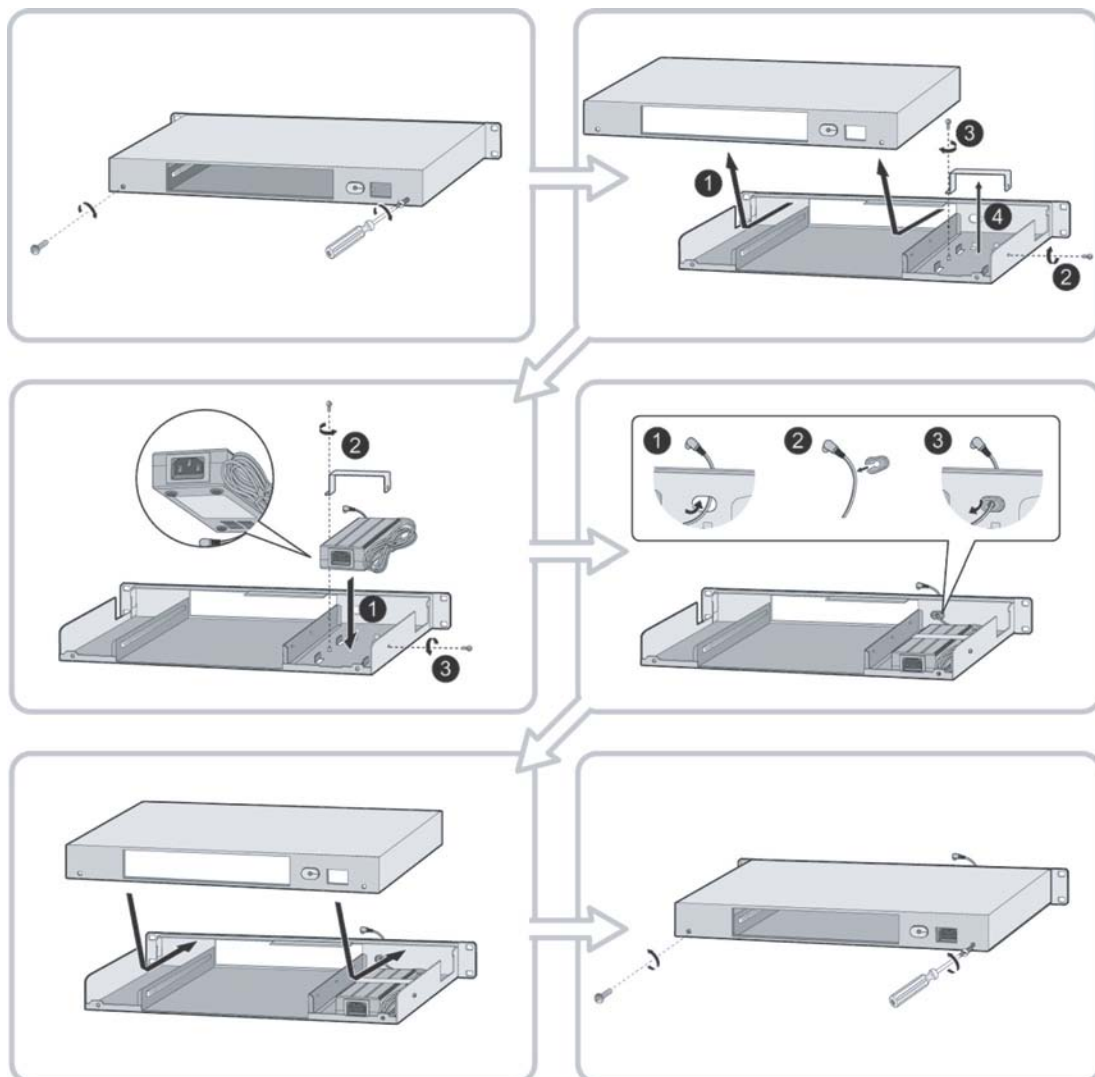

Figure 4.3.5-1 1U RMB Adapter Installation
2. Install the gateway Module into the 1U-RMB and connect the adapter plug. Refer to Figure 4.3.5-2.